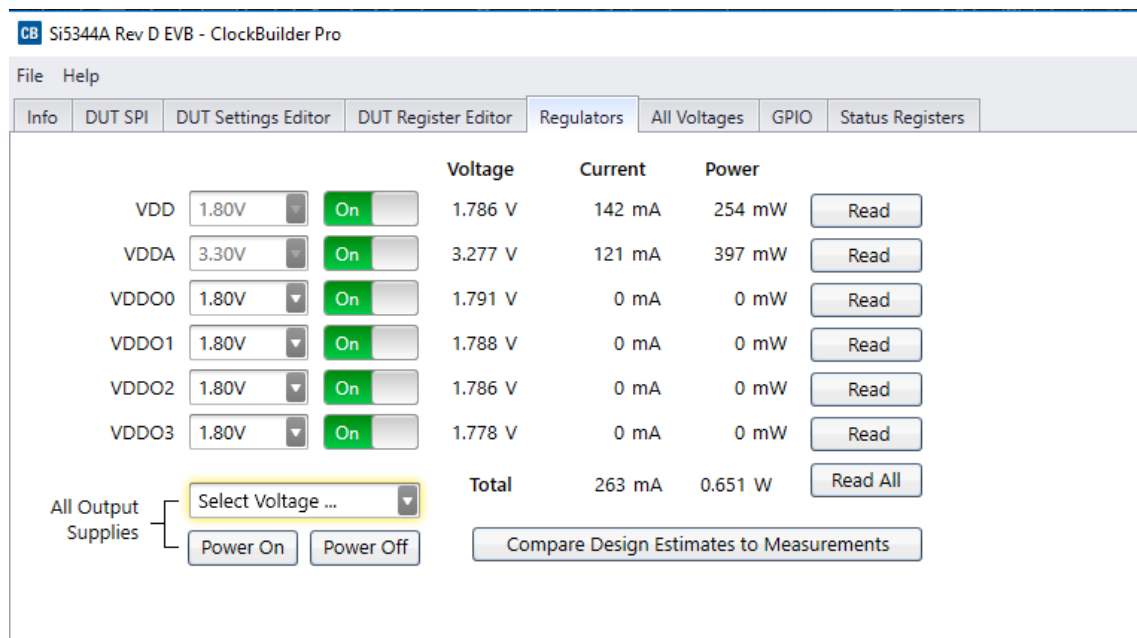

Figure 14. EVB GUI Window
6. The EVB GUI opens. All power supplies are set to the values defined in the device's default CBPro project file created by Skyworks, as shown in Figure 14.
You can run a quick check to determine if the device is powered up and generating output clocks (and consuming power) by clicking on the Read All button (bottom right-hand corner of Figure 14) and then reviewing the voltage, current, and power readings for each VDDx supply.